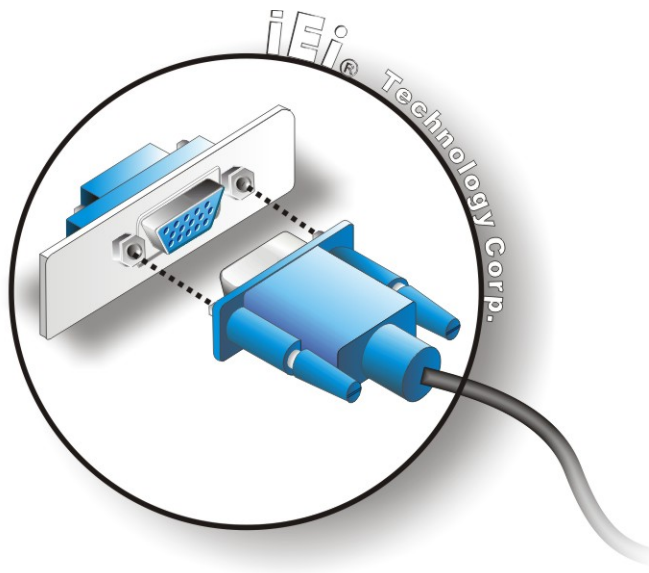

Figure 4-20: VGA Connector
- Step 5: Insert the VGA connector.** Once the connectors are properly aligned with the insert the male connector from the VGA screen into the female connector on the NANO-PV-D510A. See **Figure 4-20**.